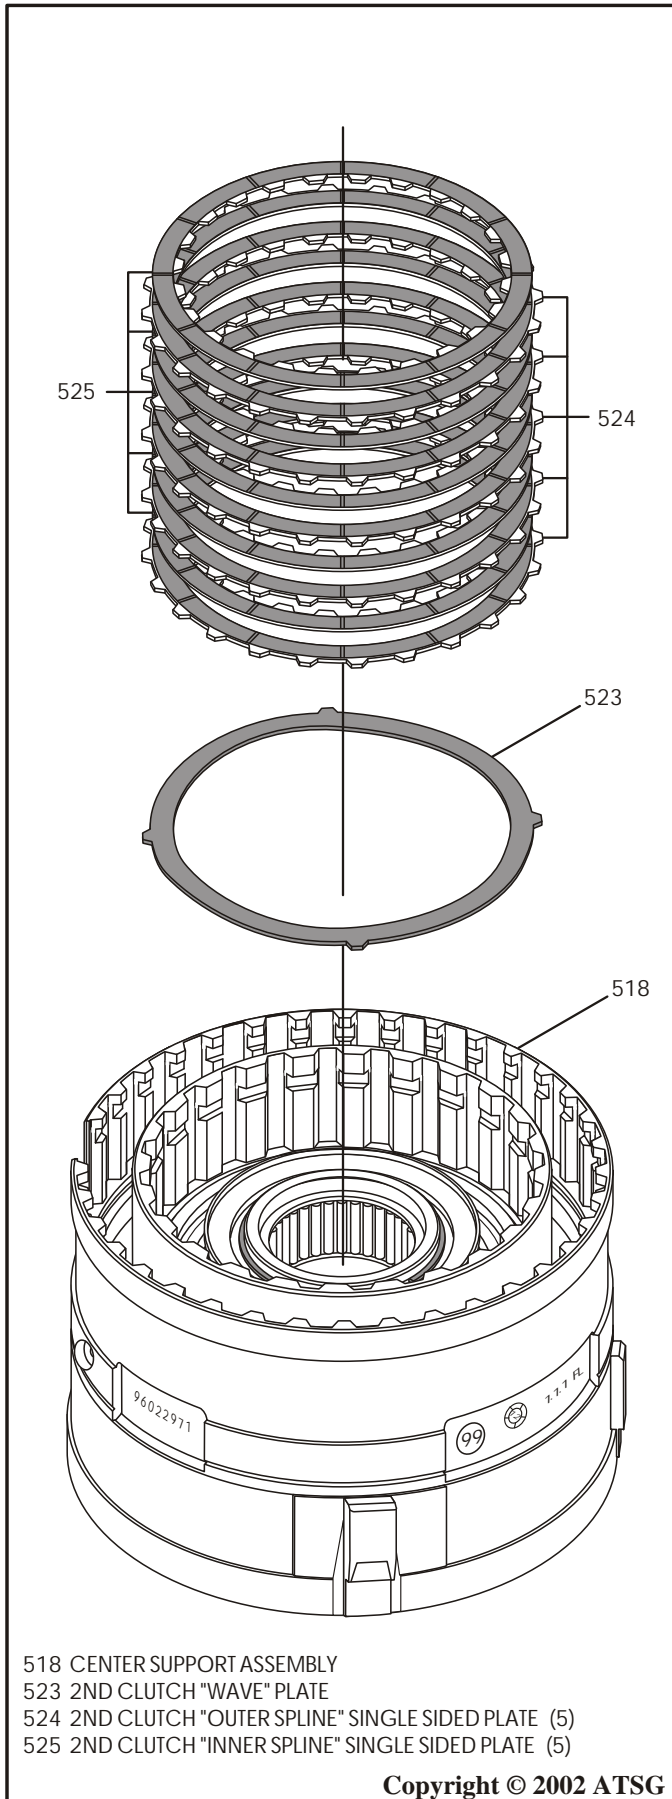

Figure 141
22. Install the 2nd clutch "Wave" plate into center support, as shown in Figure 141.
23. Install the 2nd clutch "single sided" plates beginning with an outside spline plate first and alternating with inside spline plates until you have installed 5 of each (See Figure 141).
**Note: Lined side must be installed facing up, as shown in Figure 141. Clutch plate amounts may vary by model. This set of clutch plates are not used at all in the "4L40-E" models.**
25. Install the "Selective" backing plate snap ring, as shown in Figure 141, and ensure that snap ring is fully seated against the top of snap ring groove in the center support.